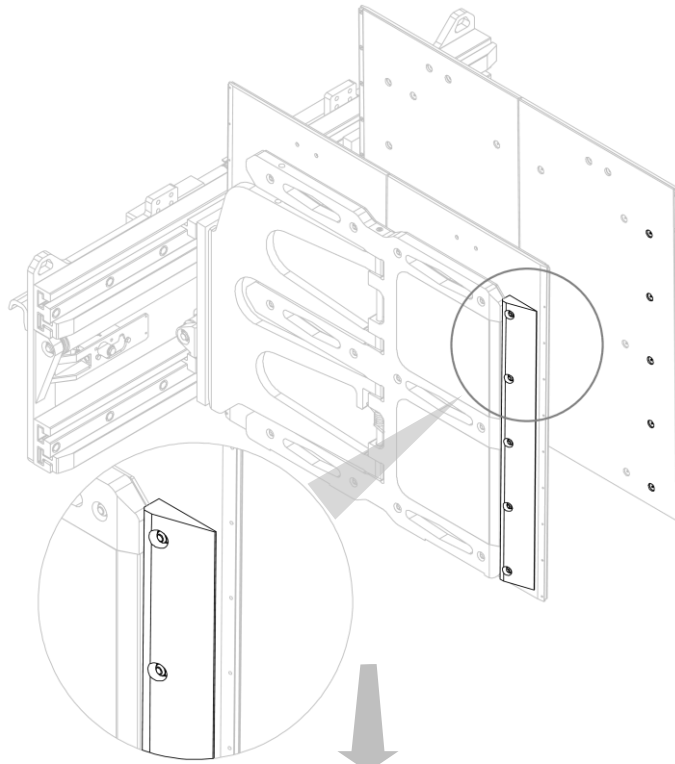
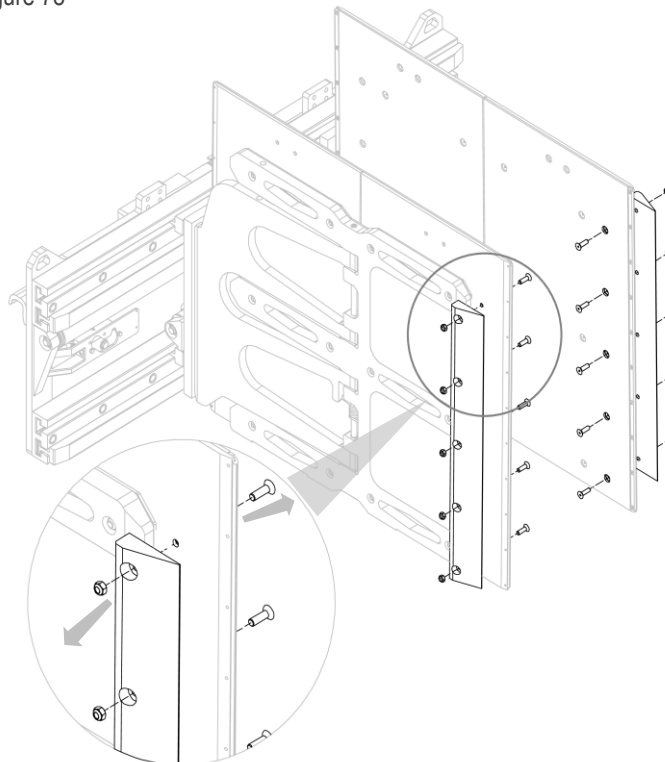

Figure 78
Figure 79
2. Remove the Ertalon protective caps after removing the nuts and screws (see *Figure 78* and *Figure 79*).